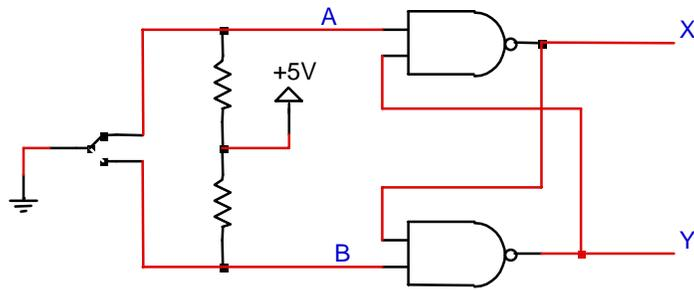

Figure 3
- b) Use the circuit to build a bounceless switch as shown in Figure 3. Mechanical switches typically “bounce” when switched—meaning when they transition from open to closed or vice versa, they make several very fast transitions. For example, a switch may transition open \rightarrow closed \rightarrow open \rightarrow closed when it is closed once.
Do6: Explain why the circuit in Figure 3 is bounceless and compare it with a mechanical switch.